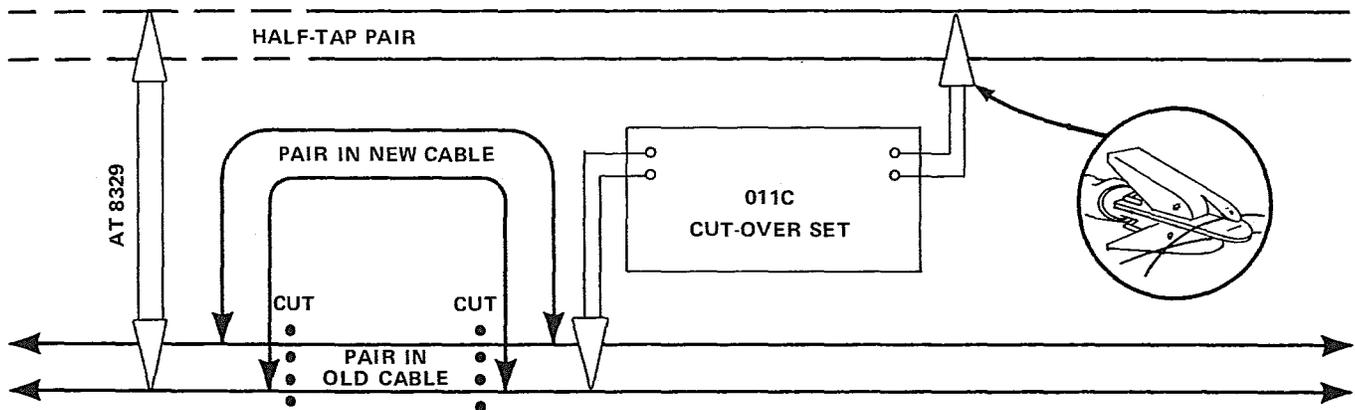

Fig. 4
1. Select a good pair in the NEW cable for use as the Half-Tap Pair. Connect the Cut-Over Set to the Half-Tap Pair at one splice location. Connect one end of an AT-8329 Transfer Cord to the Half-Tap Pair at the other splice location. Since both clips must be attached in the same polarity, connect the red jaw of each clip to the ring side of the pair. (See Fig. 4.)
3. With toggle switch in TEST position and VOLTS knob OFF, connect set to the working pair just identified. At the other location, connect the Transfer Cord to this pair. Make both connections to the working pair outside of the section to be cut out, away from the other splice location. (See Fig. 4.) Be careful to observe polarity.
2. With the Cut-Over Set toggle switch in the TEST position and the VOLTS knob OFF, connect the set to the pair just identified. At the other location, connect the Transfer Cord to this pair. Make both connections to the pair outside of the section to be cut out, away from the other splice location. (See Fig. 4.) Always connect the red jaw of the transfer clip to the ring conductor of a pair.